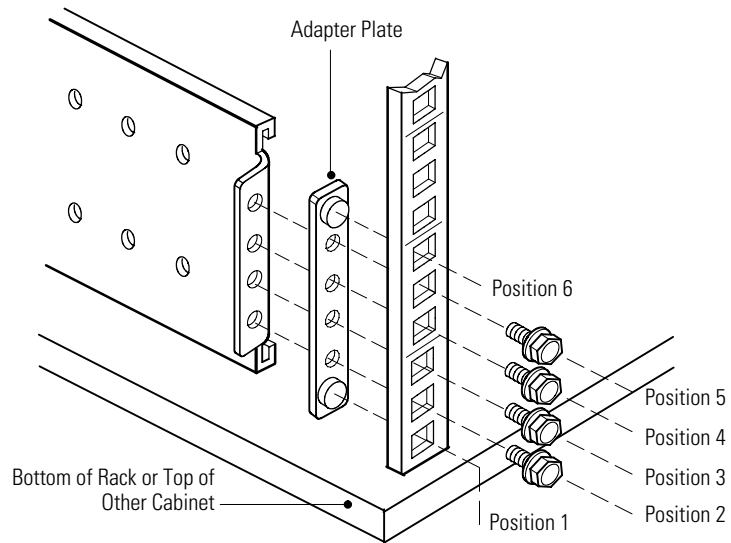

Figure 1. Securing the Rear Rail (Right Rail Assembly Shown)
2. Secure the rail to the rear of the rack with four M5 machine screws and an adapter plate (see Figure 1).